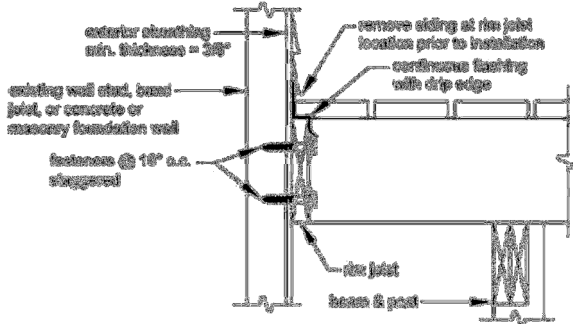

Figure 2
5. Refer to figures 2, 3, and 4 for ledger board fastening pattern.